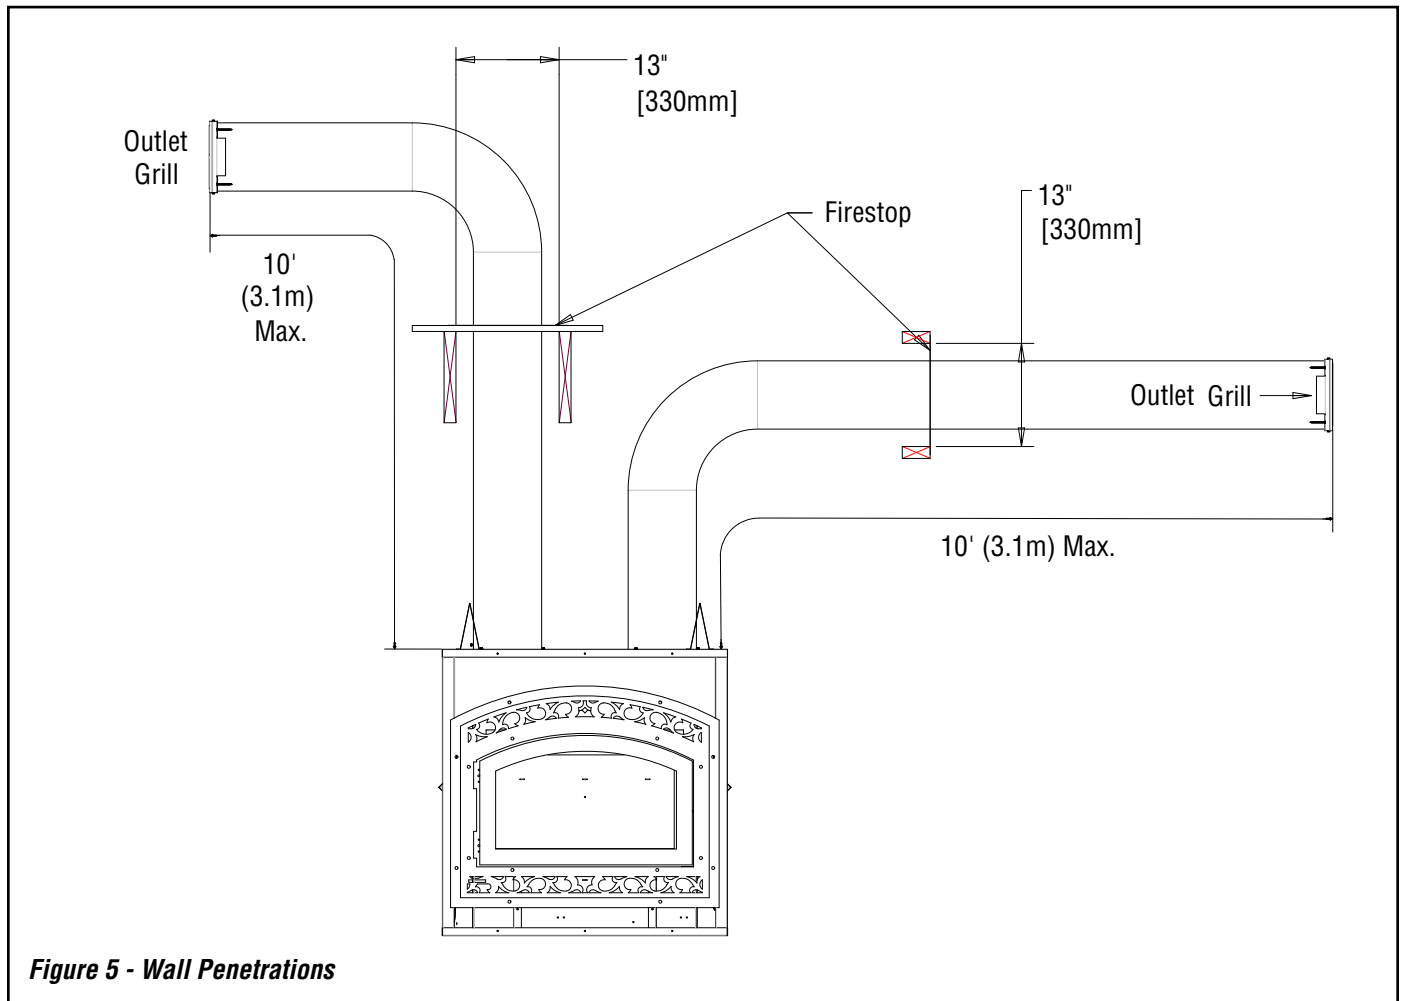

Figure 5 - Wall Penetrations
- > When traversing a combustible wall or floor, a firestop (not provided) must be installed at the wall or floor penetration. Maintaining a minimum 1" (25mm) clearance between the ducts and any combustible material, the hole size must be 13" X 13" (330mm X 330mm) (see **Figure 5**).